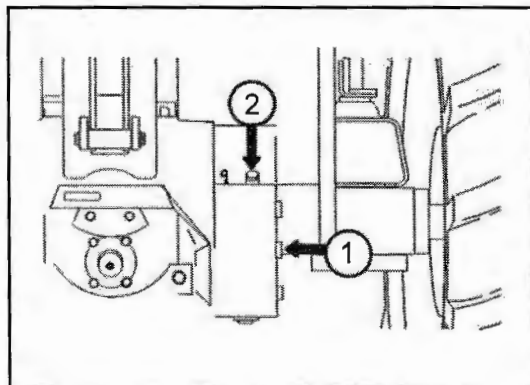

Fig. 39-1 - Final Drive
Remove level plug (1). Oil should be level with plug bore. If necessary, fill the housing through the filler hole (2) until oil comes out of its hole. Tighten oil level and filler plugs. (See Fig. 39-1).